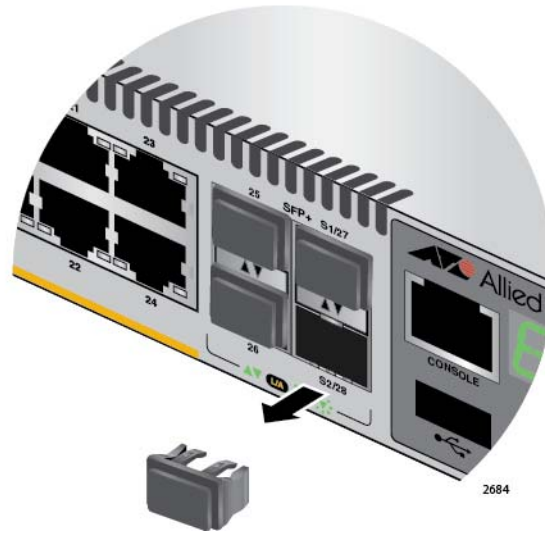

Figure 32. Removing the Dust Plug from the S2 Slot
5. Remove the dust cover from the S2 slot in the next switch in the stack as shown in Figure 32 on page 73.